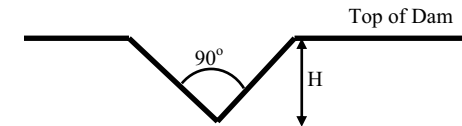

Figure 1. Notch weir geometry.
- (a) For the circular gate shown in figure 1, submerged in water, what is the minimum weight (per unit length) of the gate so that it does not float.
The maximum depth of water in a reservoir is maintained by a V-notch weir, as shown in figure 1. When the water exceeds its optimum depth, the excess discharges via the weir into a spillway.